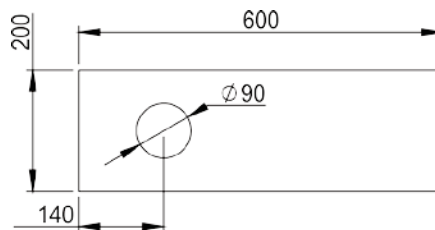

Fig 1
- 4.2.3 After unpacking, the hardness tester shall be placed on a stable working table horizontally, with horizontal deviation less than 1mm/m. A hole shall be drilled at an appropriate location on the working table (see Fig.1) to enable the Up and Down Lead Screw to operate properly. We suggest the height of working table should be about 500mm.